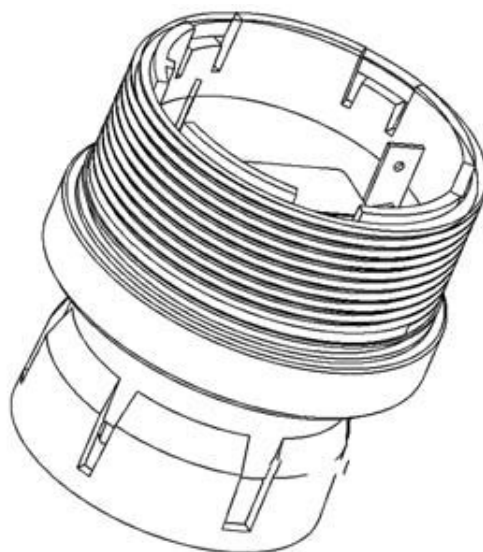

Fig. 28 Sensor Assembly and Sensor Guard for General-Purpose Model
- (1) There is no need to open the main enclosure; simply unscrew the sensor assembly located on the bottom of the Ultima X Series Gas Monitor main assembly (Fig. 28).